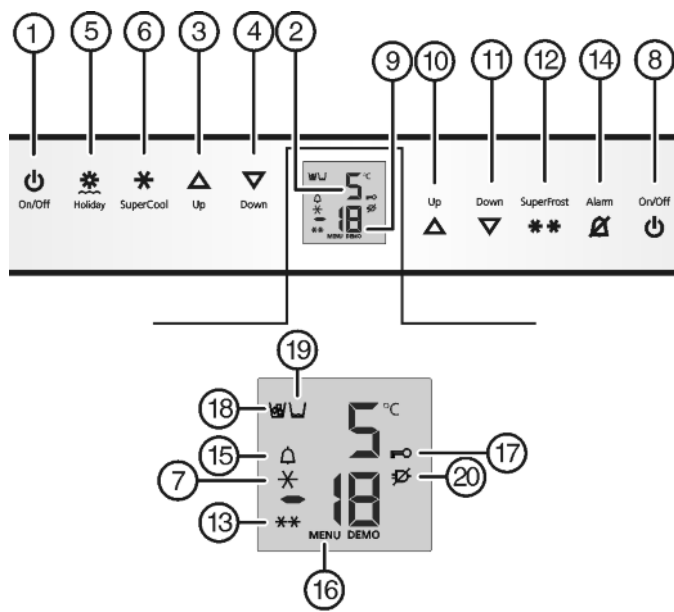

Fig. 2
- ▶ Press On/Off button, freezer compartment *Fig. 2 (8)*.
- ▶ Press On/Off button, refrigerator compartment *Fig. 2 (1)*.
- ▷ The fridge and BioFresh section are on: Fridge temperature display *Fig. 2 (2)* is on. When you open the door the interior light comes on.
- ▶ To activate the setting mode: press SuperFrost button *Fig. 2 (12)* for about 5 s.
- ▷ The menu symbol *Fig. 2 (16)* shines.
- ▶ Briefly press the SuperFrost button *Fig. 2 (12)* to confirm. When **c l** is indicated in the display:
- ▶ To activate the child lock, briefly press the SuperFrost button *Fig. 2 (12)*.
- ▷ The child lock symbol *Fig. 2 (17)* shines. **c** flashes in the display. When **c 0** is indicated in the display:
- ▶ To deactivate the child lock, briefly press the SuperFrost button *Fig. 2 (12)*.
- ▷ The child lock symbol *Fig. 2 (17)* goes out. **c** flashes in the display.
- ▶ To deactivate the set-up mode: press On/Off button, freezer compartment *Fig. 2 (8)*.
- ▶ Press alarm button *Fig. 2 (14)*.
The temperature display and the alarm symbol *Fig. 2 (15)* flash at the same time.
The audible alarm is automatically silenced, the alarm symbol *Fig. 2 (15)* goes out and the temperature display stops flashing when the temperature is sufficiently cold again.